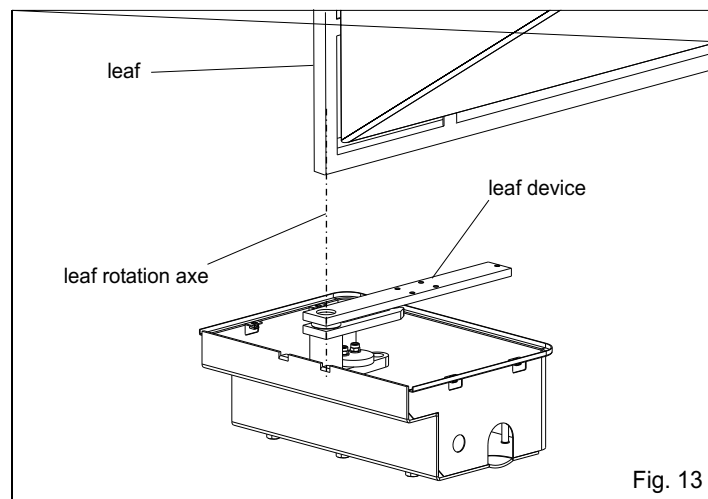

Fig. 13
3.1. Position the leaf of the gate on the leaf device making reference to the rotation axe of the leaf hinge (Fig. 13);